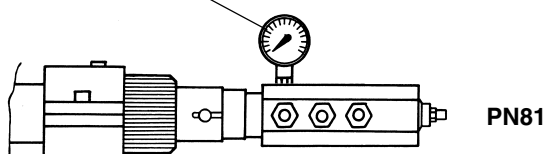

Fig. 18
- 8 the nozzle supply pressure is already factory-set and must not be changed. Only if necessary, adjust the supply pressure as follows (see related paragraph); insert a pressure gauge into the port shown on Fig. 18 and act on the pump adjusting screw **VR** (see Fig. 17) as to get the nozzle pressure at 20bar or 25bar (according to the nozzle provided Bergonzo or Fluidics nozzles - see diagram on page 21).